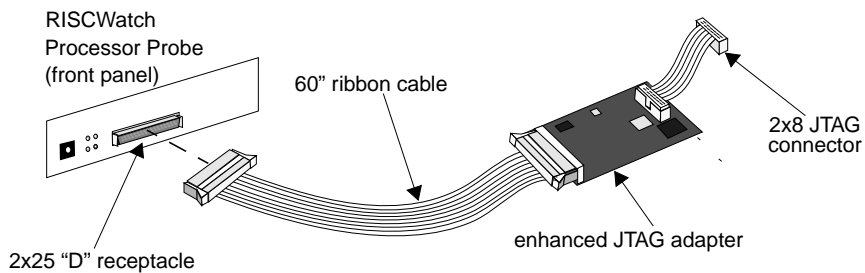

Figure 4-3. Enhanced JTAG Adapter Assembly
6. If your adapter assembly resembles Figure 4-3, you have what we refer to as an "Enhanced JTAG adapter assembly". To assemble the adapter assembly and cables, perform the following steps: